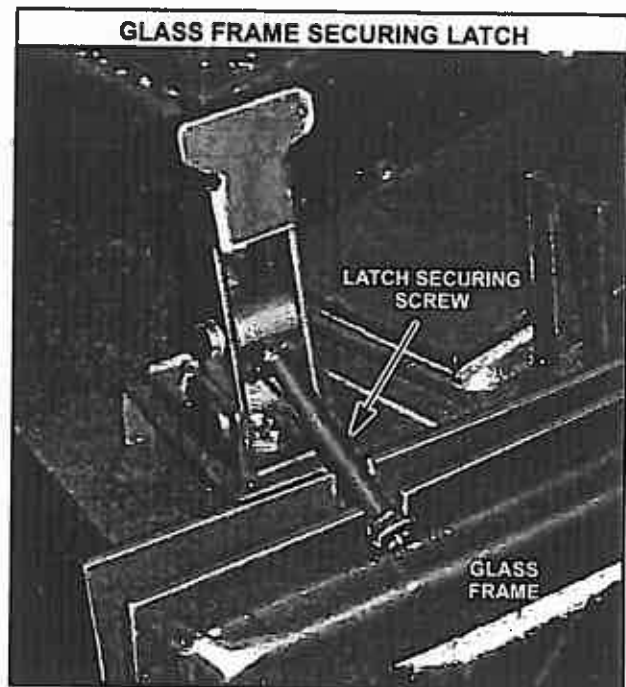

FIGURE 3
- 2 - Release the two top latches that secure the glass/frame assembly to the firebox. Lift the latch securing screws from the slots on the glass frame. See figure 3. Ease the glass/frame assembly outward from the top and carefully lift the frame out of the three channels at the bottom. Set the glass/frame assembly aside in a safe place.